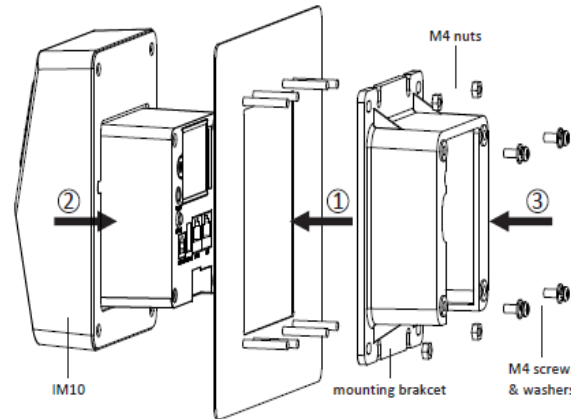

Figure 6: device installation
- The back face of the installation should have 4 to 8 bolts corresponding to the mounting points located on mounting bracket. Slide the mounting bracket into place with the orientation shown in figure 6 and then fix it in place with 4 M4 nuts.
- Slide the IM10 unit into place with the orientation shown in figure 6. The back portion of the device should rest securely inside the mounting bracket.